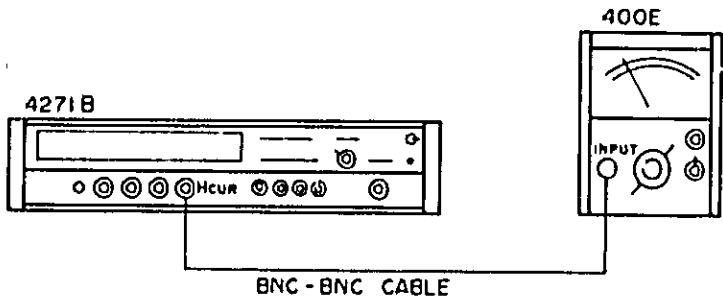

Figure 5-2. Oscillator Adjustment.
- a. Connect AC Voltmeter to 4271B as shown in Figure 5-2.